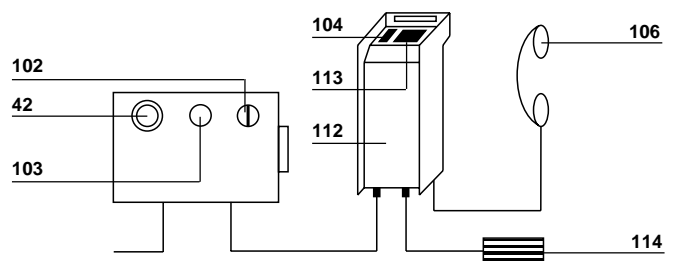

Fig. 10 - Cradle auxiliary control box Fig. 11 - Cradle control box
7.4.3 Cradle auxiliary control box (Fig. 10)